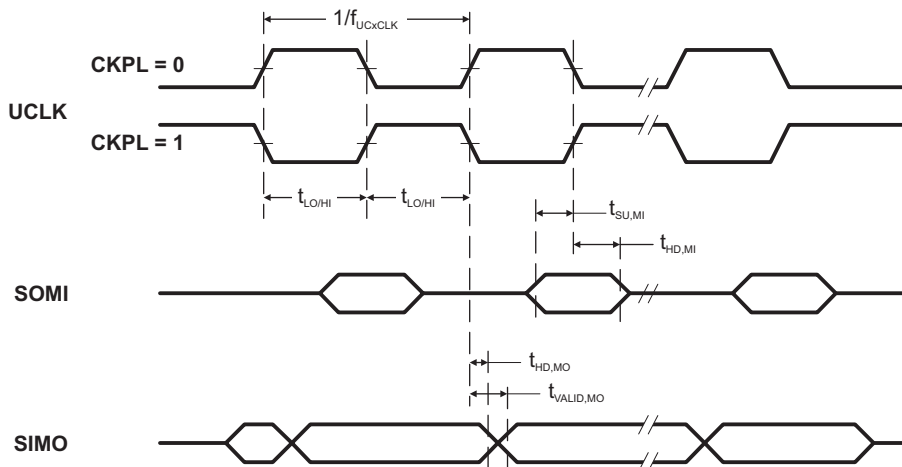
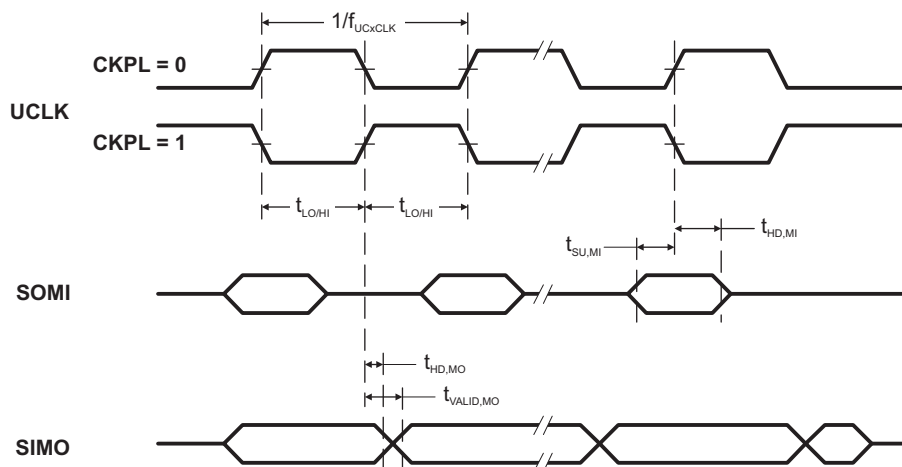

Figure 5-11. SPI Master Mode, CKPH = 0
Figure 5-12. SPI Master Mode, CKPH = 1
(see Note ⁽¹⁾, Figure 5-11 and Figure 5-12)
- (2) Specifies the time to drive the next valid data to the SIMO output after the output changing UCLK clock edge. See the timing diagrams in Figure 5-11 and Figure 5-12.
- (3) Specifies how long data on the SIMO output is valid after the output changing UCLK clock edge. Negative values indicate that the data on the SIMO output can become invalid before the output changing clock edge observed on UCLK. See the timing diagrams in Figure 5-11 and Figure 5-12.
- (2) Specifies the time to drive the next valid data to the SOMI output after the output changing UCLK clock edge. See the timing diagrams in Figure 5-11 and Figure 5-12.
- (3) Specifies how long data on the SOMI output is valid after the output changing UCLK clock edge. See the timing diagrams in Figure 5-11 and Figure 5-12.